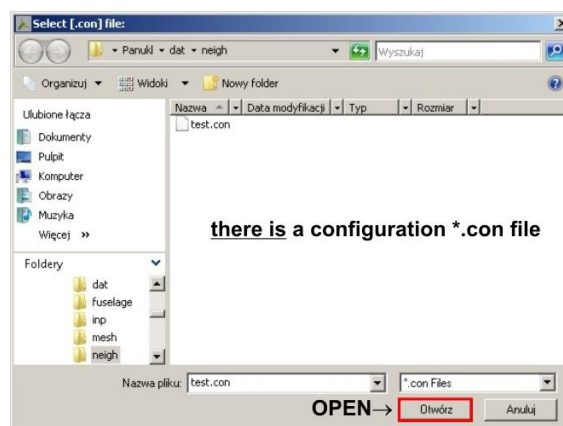

Fig. 27 – Open the connection configuration file [.con]
**Option 1** – we do have configuration **[.con]** file (Fig. 27)